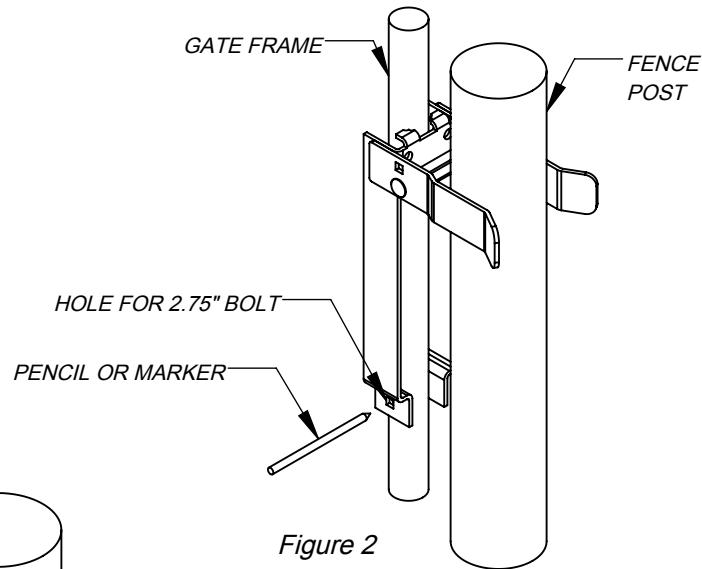

Figure 2
2. Align the latch to the gate frame at desired height, with the latch arm toward the fence post, and hold it in place while marking the location of the hole for the 2.75" long bolt (Figure 2). Remove the latch and drill a clearance hole through the gate frame at the marked location using a 25/64" drill bit.